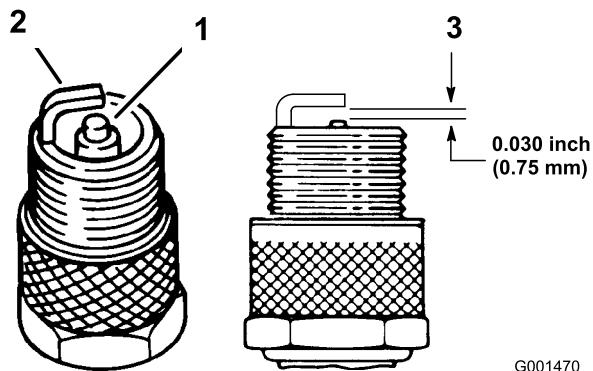

Figure 32
1. Look at the center of the spark plugs (Figure 32). If you see light brown or gray on the insulator, the engine is operating properly. A black coating on the insulator usually means that the air cleaner is dirty.
3. Check the gap between the center and side electrodes (Figure 32). Bend the side electrode (Figure 32) if the gap is not correct.
3. Connect the wires to the spark plugs (Figure 32).